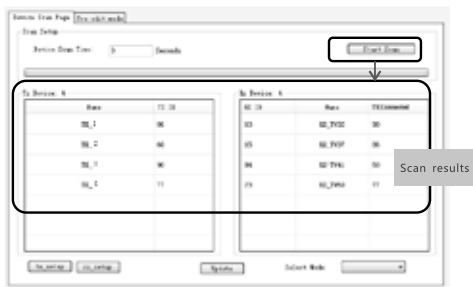

Figure 3
* Click button "Start Scan" the scanned result shows as Figure 3